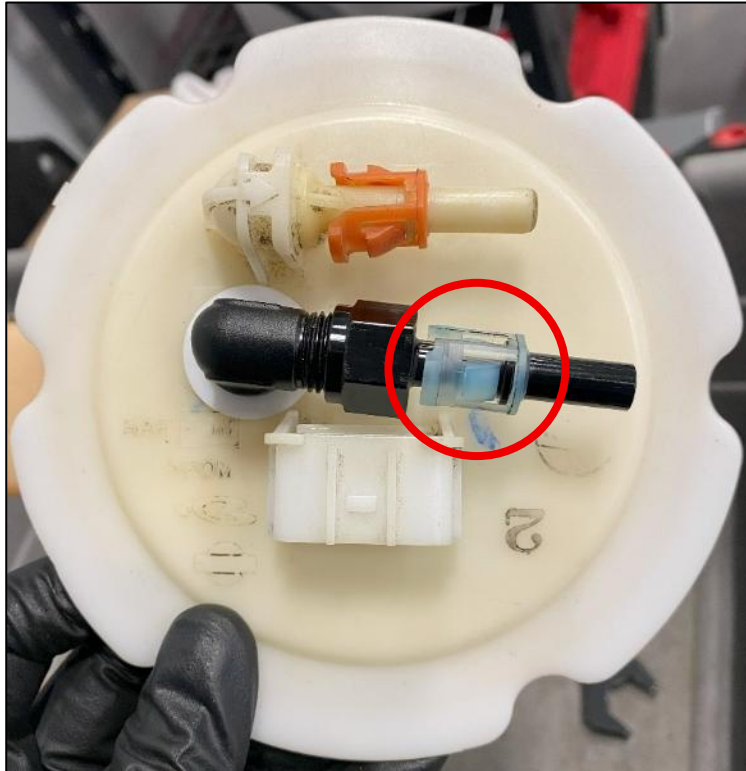

Figure 28
21. Place the OE Quick Disconnect Fitting removed in *Step 10, FUEL PUMP REMOVAL* onto the 5/16" Quick Disconnect Fitting. *Figure 28*.
NOTE: The color of your Quick Disconnect Fitting may vary. *Figure 28* below shows the fitting on both the OE and Z1 Fuel Port. **ONLY** the Z1 Fitting needs the Plastic Quick Disconnect Fitting.